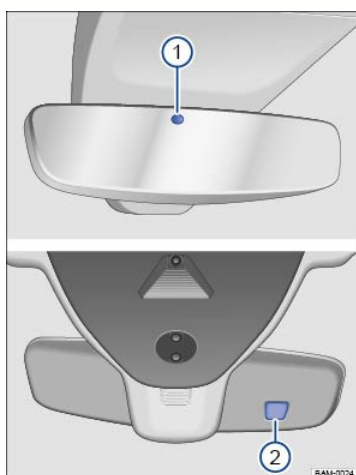

Fig. 106 On the windshield: Self-dimming rearview mirror.
When the ignition is switched on, the sensors in the front ⇒ Fig. 106① and back ⇒ Fig. 106② of the rearview mirror measure the amount of light shining into the vehicle from the front and the rear.